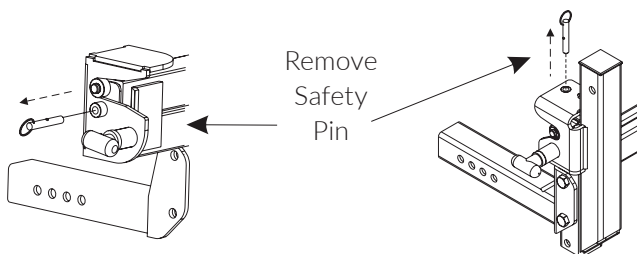

Figure 7-9
1. Remove the safety pin. See Figure 7-9.